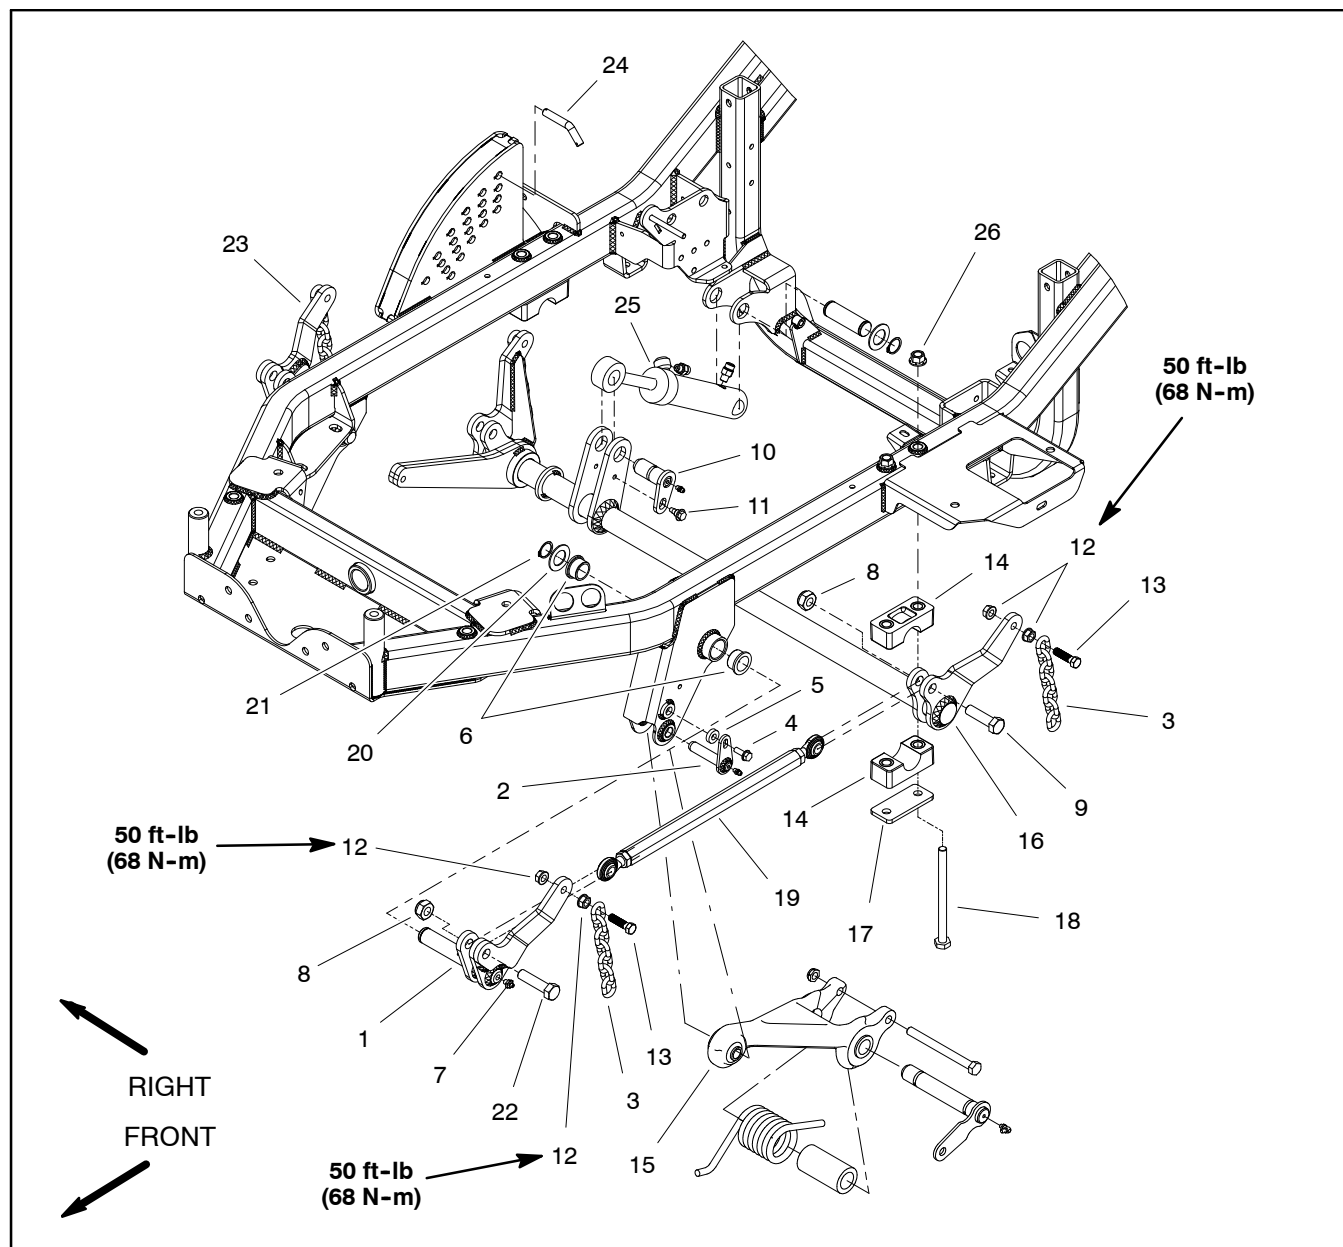

Figure 44
### Disassembly (Fig. 44)
2. Remove lift arm components as necessary using Figures 44 and 46 as guides.
**NOTE:** If pull link assembly (item 15) removal is necessary, refer to Cutting Deck Pull Links in the Service and Repairs section of Chapter 7 – Cutting Deck.
### Assembly (Fig. 44)
1. Check bearing caps (item 14) and flange bushings (item 6) for wear or damage. Replace components if necessary.
2. Install lift arm components as necessary using Figures 44 and 46 as guides.